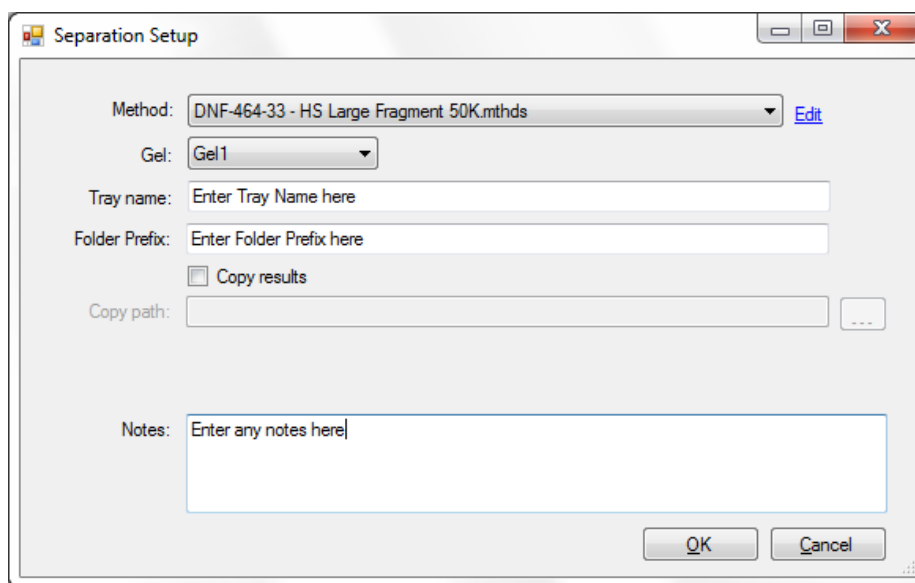

Figure 4. **Separation Setup** form to select experimental Method and enter tray/folder information
3. After sample information for the row or plate has been entered, under the **Run Selected Group** field press **Add to queue**. The **Separation Setup** form will be displayed enabling the user to select the experimental method and enter additional information (Figure 4).
11. On 96-capillary systems, or in 12-capillary or 48-capillary systems if the entire 96-well sample tray is to be run using the same experimental method, under the **Run Entire Tray** field press **Add to queue**. A form similar to Figure 4 will be displayed for entering information and adding the run to the instrument queue for the entire 96-well sample tray.
2. Administrator level operators can **Edit** certain steps of the experimental method. To open the method editor screen, press the **Edit** link from the **Separation Setup** screen (Figure 4). The method editor screen is displayed, showing the steps of the method (Figure 6).